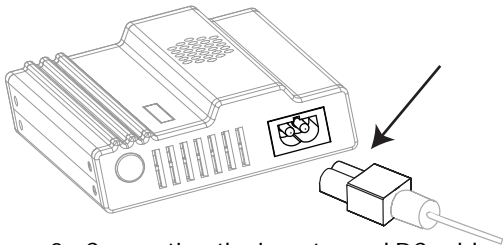

Figure 2 Connecting the inverter and DC cable
1. Plug a DC cable into the DC cable port on the XR100 and connect to a 12V battery (Figure 2).